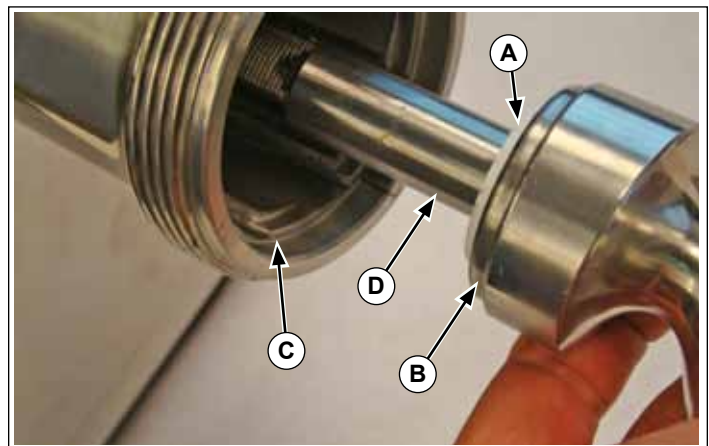
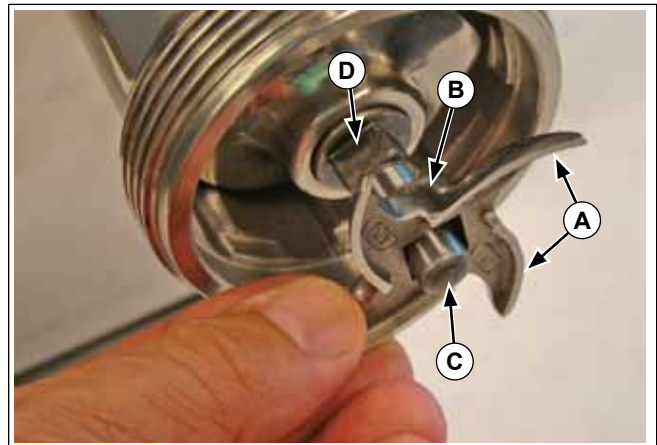

Figure 5. Shaft Washer, Worm Gear Assembly and Grinder Chamber
Figure 8. Knife Blade and Blade Shaft Figure
5. Remove the worm gear assembly (B) from the grinder chamber (C). See Figure 5.
3. Slide the shaft washer (A) so that it is seated against the worm gear assembly (B) as shown. See Figure 5.
4. Slide the worm gear assembly (B) and the shaft washer (A) into the grinder chamber (C). Slide the worm gear shaft (D) in until it is seated fully.
5. Slide the knife blade (B) so that the flat ground edges (A) face to the outside as shown, onto the blade shaft (C). See Figure 8.